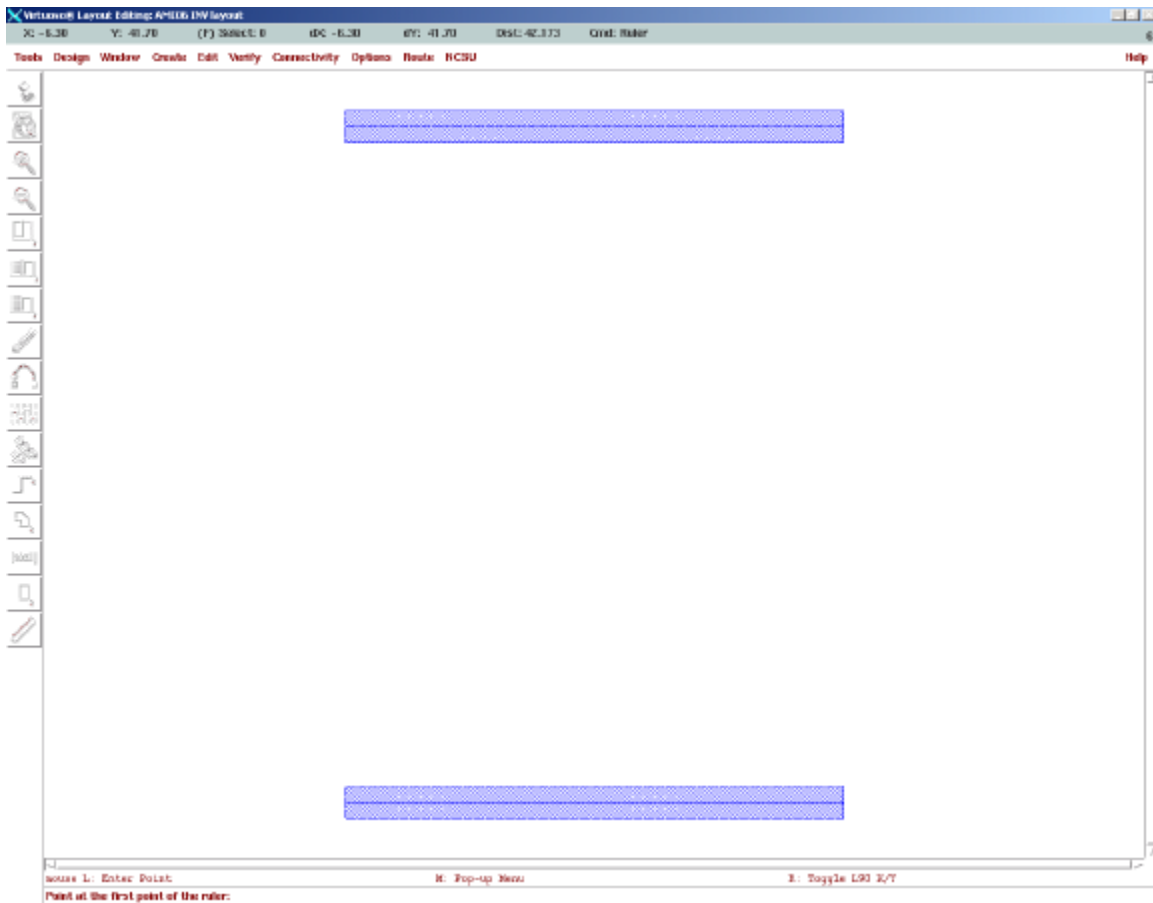

Figure 65: Inverter with VDD and Ground Lines.
2. Click on the ground line in the upper left corner and copy it to coordinate x=0, y=39.9 as in Figure 65.